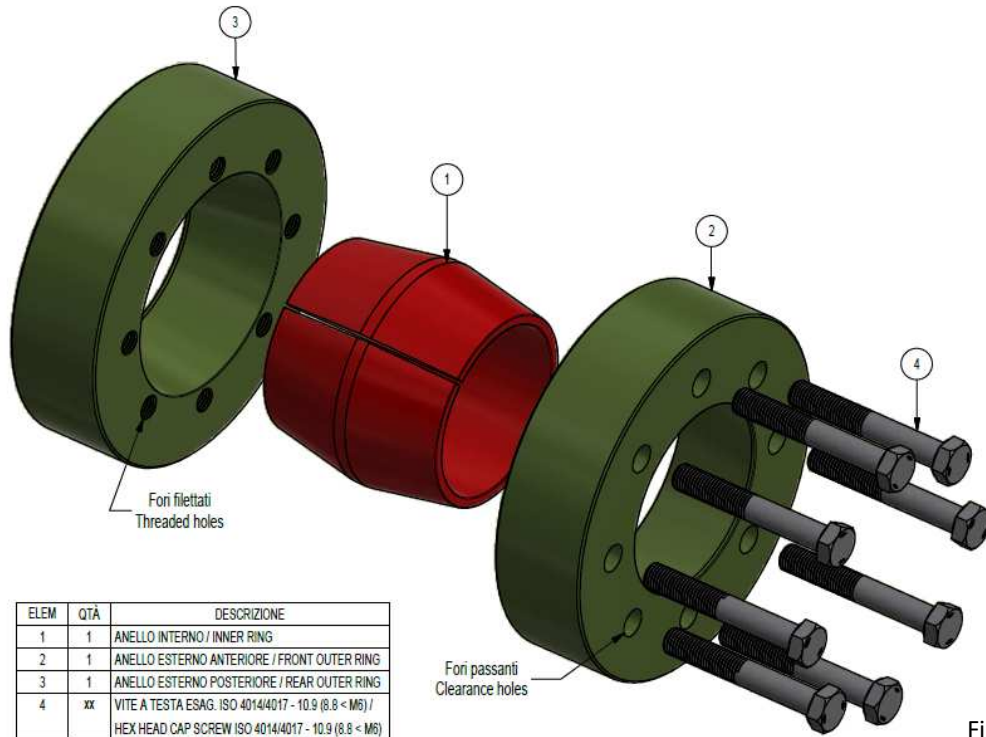

Fig. 1. Composition.
- Rigid Couplings MAV 1204 are supplied ready for installation. They are composed of (fig. 1):